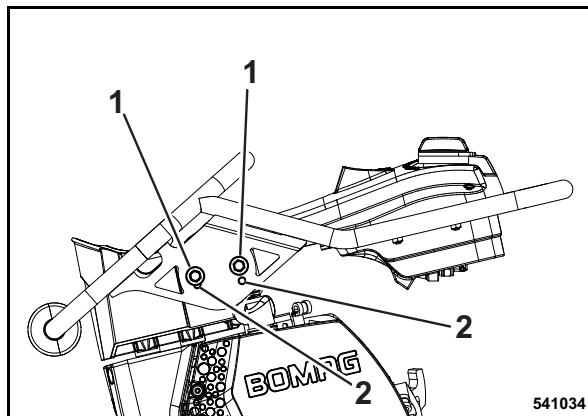

Fig. 11
The steering bow can be adjusted to the height of the operator by using the bore holes (1) and (2) (Fig. 11):
(1) lowest position
(2) highest position
- Loosen the screws (1) on both sides and pull them out.
- Fasten the screws (1) on both sides using the bores (1) or (2).